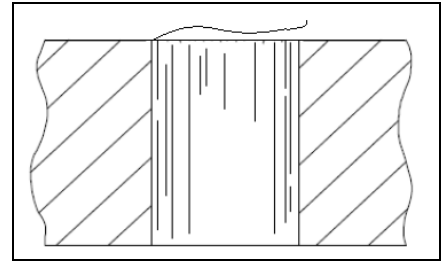

Figure 3 Whisker Burr
- a. Whisker Burr (see Figure 3):